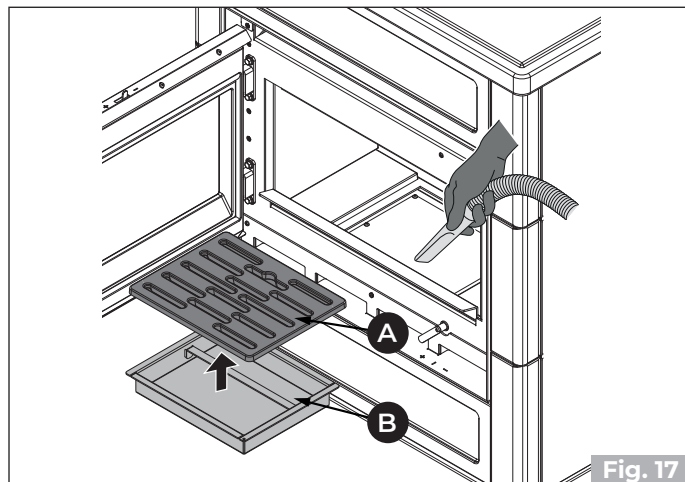

Fig. 17
- 1) Carefully clean the grate (**A**) (**Fig. 17**). Remove it and clean the fire box using a hand brush (not supplied) brushing the combustion residues into the ash drawer.
- 2) Extract the ash drawer (B) from the base and vacuum out any ash deposited in the compartments below (Fig. 17).